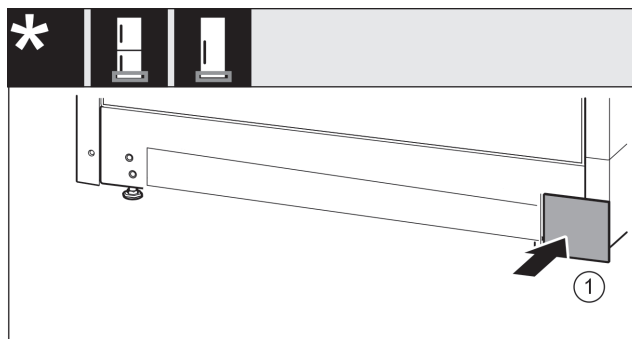

Fig. 15
- Put back the cover on the other side. Fig. 15 (1)